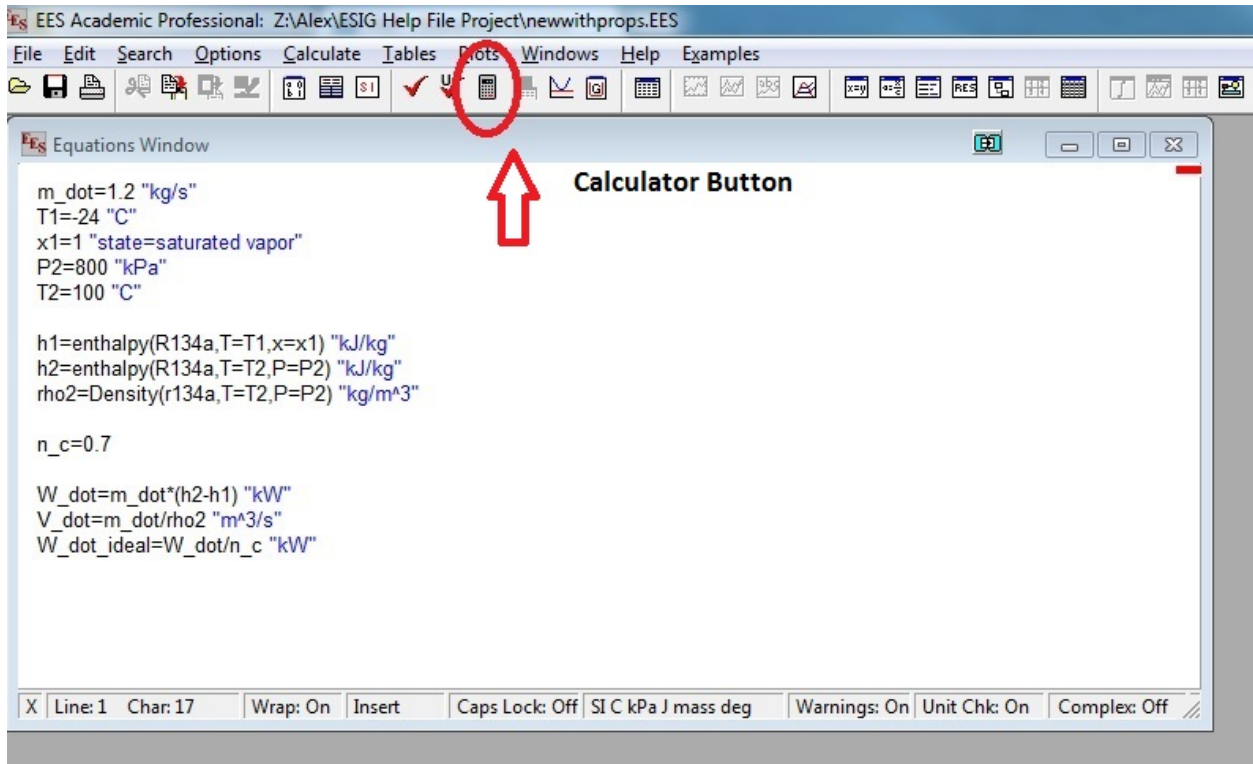

Fig. 8
Step 3: Enter the thermodynamics equations we want to solve for in EES (shown in Fig. 8)